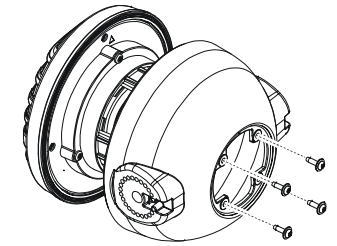

Figure 3
1. Remove the **MLS-300** from the bracket by removing the two Mounting Bracket Knobs, then remove the rear case of the **MLS-300** from the main body by removing the four screws (Figure 3.).